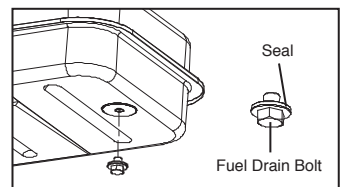

Figure 10. Fuel Drain Bolt
(For KFA135WH/180WH/220WH Models Only. See Figure 10)
5. Reinstall fuel drain bolt to Fuel tank and tighten firmly using 3/4” socket or adjustable wrench. (For KFA135WH/180WH/220WH Models Only. See Figure 10)